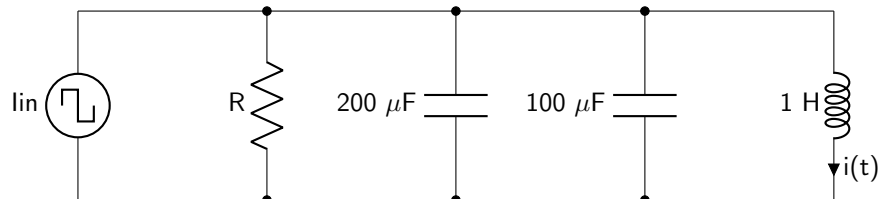

Figure 10.6: RLC circuit diagram.
6. Calculate the necessary resistance value for the parallel RLC circuit shown in figure 10.6 to obtain a critically damped output. Assume that each inductor has $50\ \Omega$ of parasitic resistance.